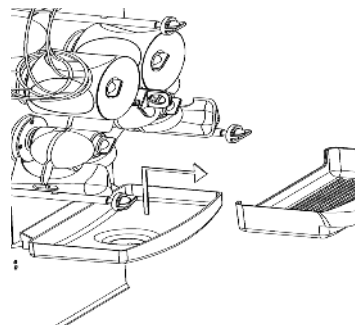

Figure 9
3- Remove the filter (48) that is in front of your machine (Figure9).